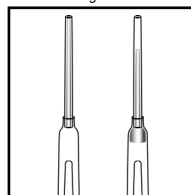

Figure 3
5. **Required for R-1501D only:** Pull the VACUette into a vertical position. A small portion of the collected sample should fall into the sleeve of the VACUette tip (fig. 3).